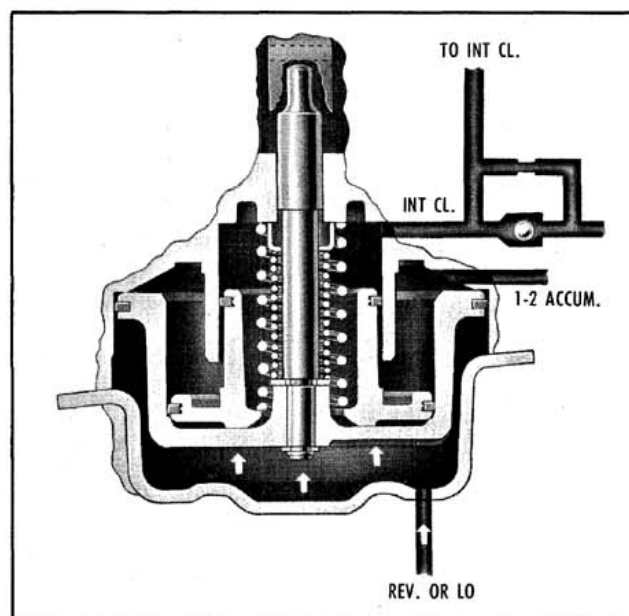

Fig. 6-13 Rear Servo and Accumulator Assembly
**REAR SERVO AND ACCUMULATOR ASSEMBLY (Fig. 6-13)**